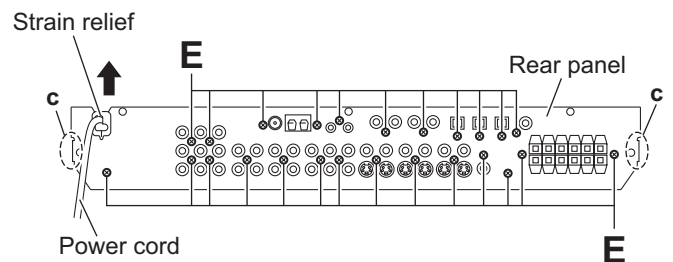

Fig.6
3.3 Removing the rear panel (See Fig.6)